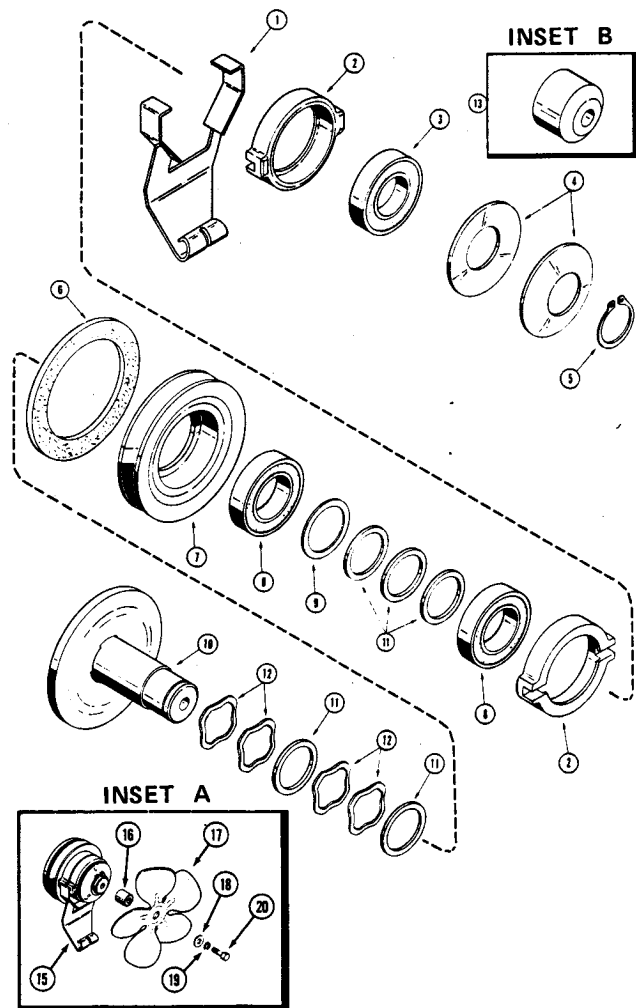

FIGURE 9
Spacer Kit, part number C16483, is available to replace the snap ring (5) in the event the groove in the drive hub (10) is worn. See inset B reference 13 in Figure 9. Therefore, it is not necessary to replace the drive hub (10) because the snap ring does not hold.
4. Disconnect the PTO control rod from the engaging arm (1), Figure 9.
5. Remove the RIGHT HAND THREAD bolt, Inset "A", Figure 9 (20) with lockwasher and plain washer and remove the fan (17) and spacer (16).
8. Carefully clamp the clutch assembly in a vise and compress the load springs (4) enough to remove the snap ring (5).
9. Remove the clutch from the vise. Clean off paint and remove any burrs from the snap ring end of the hub assembly (10).
10. Remove the springs (4), outer cam (2) and engaging arm (1).
11. Remove the inner cam (2). Check for and remove any shim washers (9) or (11) which may have come off attached to the cam.
12. Remove the shim washers (9) and (11), pulley (7), friction disc (6), and shim washers (11) and springs (12) from the drive hub (10).